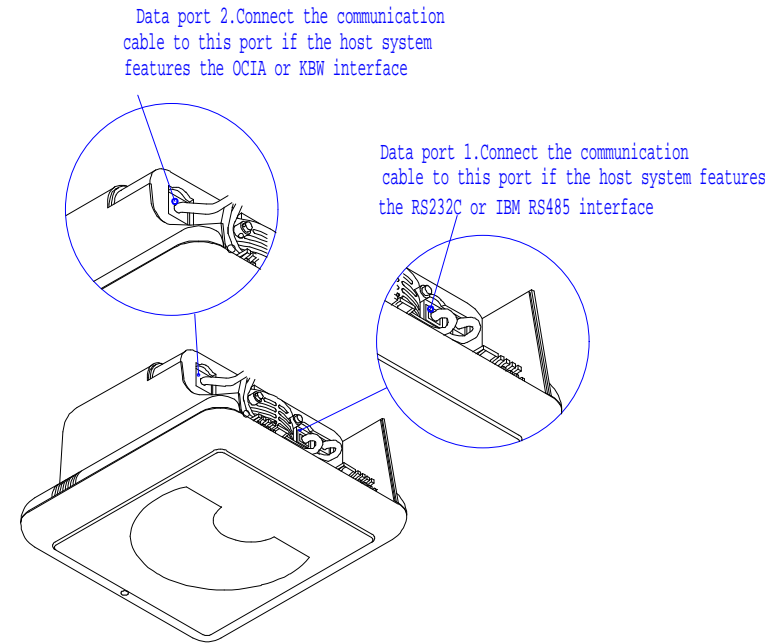

Figure 2.2
2. If the POS system is the RS-232C or IBM 485 interface, plug the communication cable with the 8 pin modular jack into Data port 1, or if the POS system interface is OCIA or Keyboard Wedge, plug the communication cable into Data port 2. Plug the other end of the cable into the appropriate serial port of your POS or computer. Use the ZEBEX universal power supply. Lead the cables through the scanner as illustrated in figure 2.2.
- Plug the communication cable with the 8 pin modular jack in the appropriate Data port of the scanner. Refer to figure 2.2 for the Data port applicable to the interface used. Plug the other end of the cable into the appropriate serial communication port of the POS system.